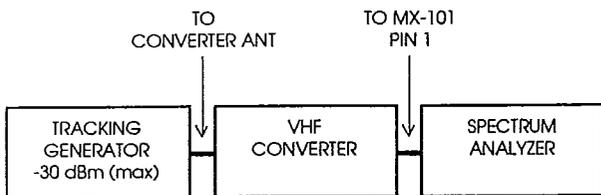

Figure 3
1. Connect a Spectrum Analyzer and Tracking Generator to the VHF Converter so that the Tracking Generator output connects to the Converter Antenna input jack (J-103) and the Spectrum Analyzer input connects to pin 1 of mixer MX101. (See Figure 3).